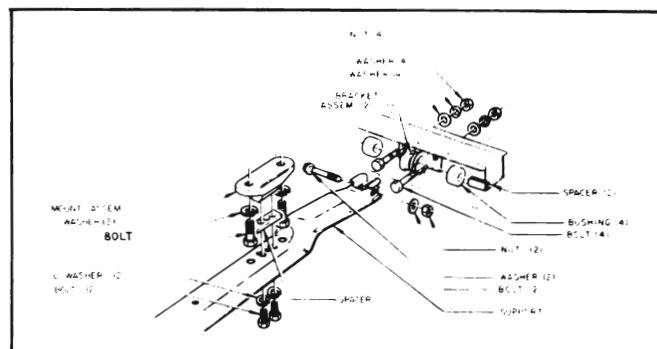

Figure 4-46—Four Speed Transmission Mounting
4. Remove propeller shaft assembly as outlined in par. 6-8, then support rear of engine and remove transmission mounting plate bolts and washers. See fig. 4-46. Remove support to underbody bolts and washers and remove support.